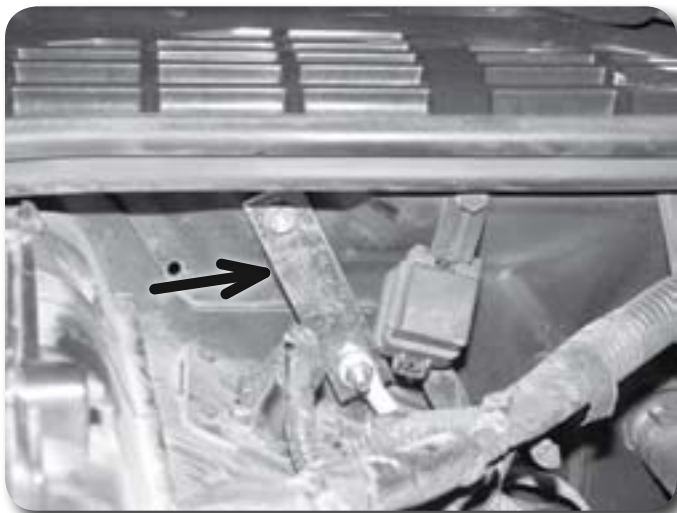

Figure 30
58. Install the provided ground strap extension on the ground stud at the passenger's side firewall and retain with the factory nut. Attach the ground strap to the bracket stud with a $\frac{1}{4}$ " nut and $\frac{1}{4}$ " SAE washer **Figure 30**.